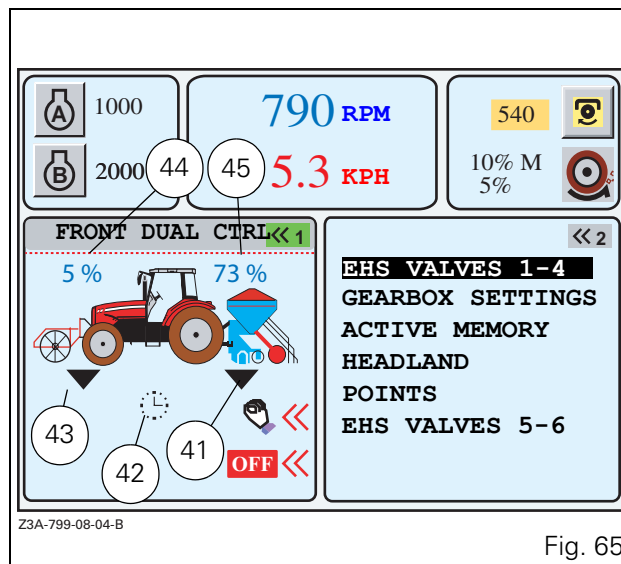

Fig. 65
- Validate by pressing the encoder or the key <<1. The window (Fig. 65) is displayed.
Description (Fig. 65):